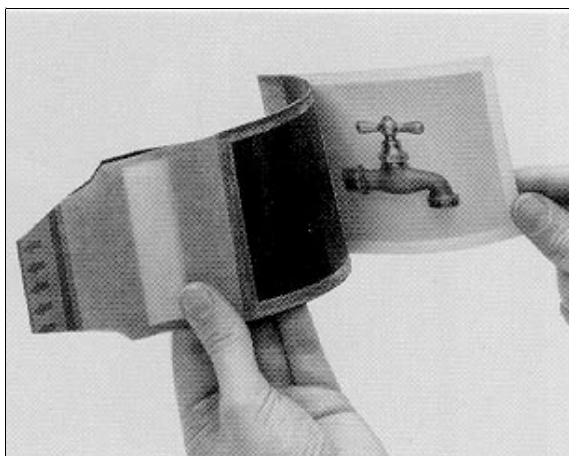

Figure 3-20. Peel Print from Negative
4. At the end of the processing time, separate the print from the negative, starting at the end nearest the yellow tab (figure 3-20). Information on the handling of prints and negatives is in the film instructions.